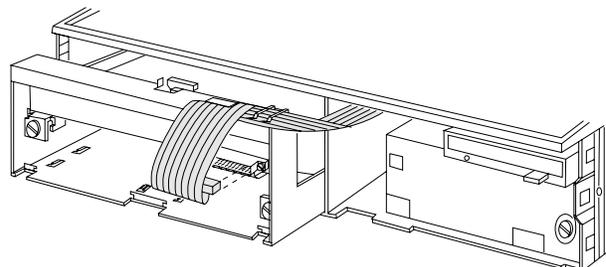

Figure 3-8. Attaching the Long Diskette Drive Cable to Logic Tray
11. Route the long diskette drive cable as shown in Figure 3-8 and plug it into the connector mounted at the front of the logic tray. Make sure the cable is held in place at the top of the logic tray as shown.